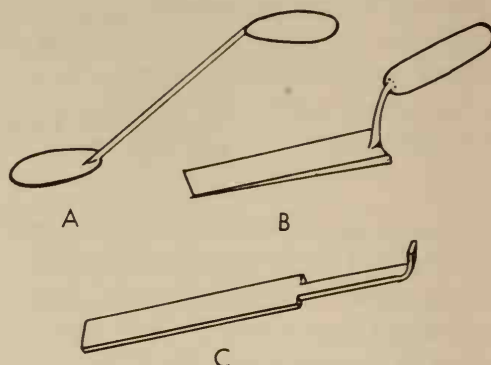

Fig. 8-8. Molder tools. (A) Slick and spoon; (B) Trowel; (C) Lifter.
8. Remove the molding board. The flat side of the pattern is now visible. Check the surface of the sand and smooth with the slick, spoon, trowel, and lifter if necessary, Fig. 8-8. Also be sure the sand is packed around the edges of the pattern. Carefully blow off any extra particles of sand.